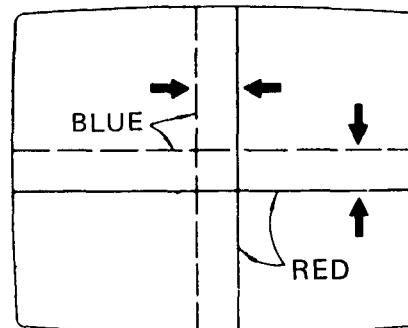

Figure 15
- a. Locate the pair of four-pole magnet rings. Rotate the individual rings (change spacing between tabs) to converge the vertical red and blue lines. Rotate the pair of rings (maintaining spacing between tabs) to converge the horizontal red and blue lines. Refer to Figure 15.